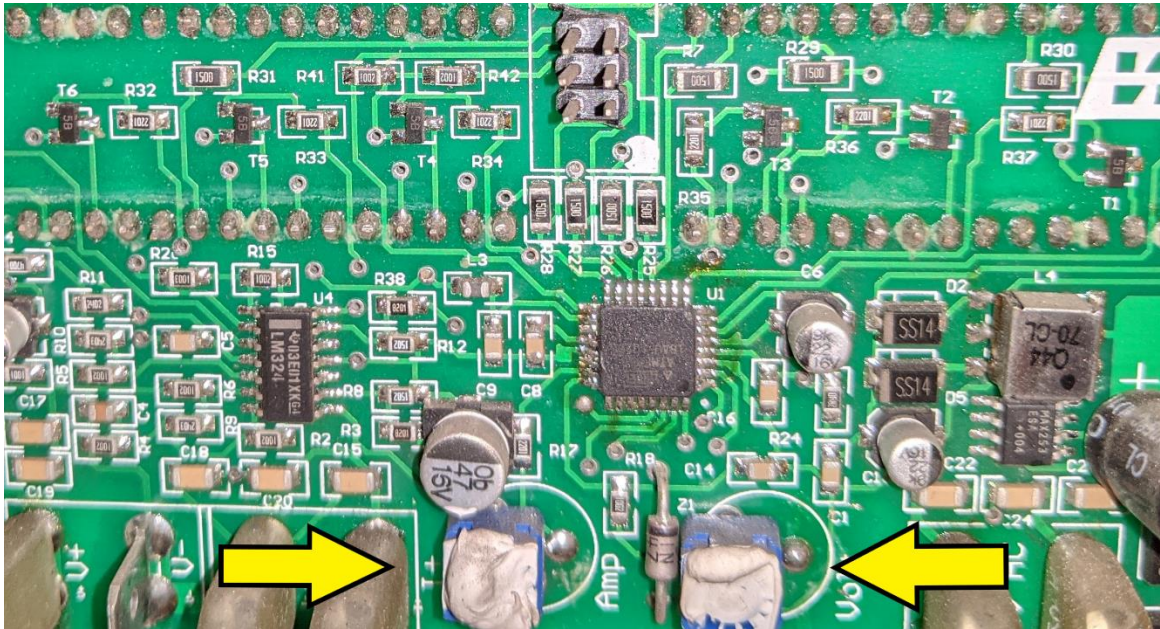

Figure 1
- e) Adjustment is carried out at the voltage potentiometer on the rear of the display card AM272-11 (refer to figure 1)